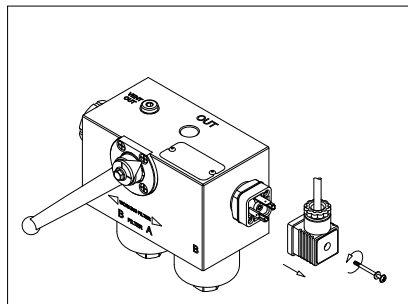

fig. 13
- (Fig. 13) Remove the connector of the differential indicator by unfastening the central screw (only for electrical indicators)